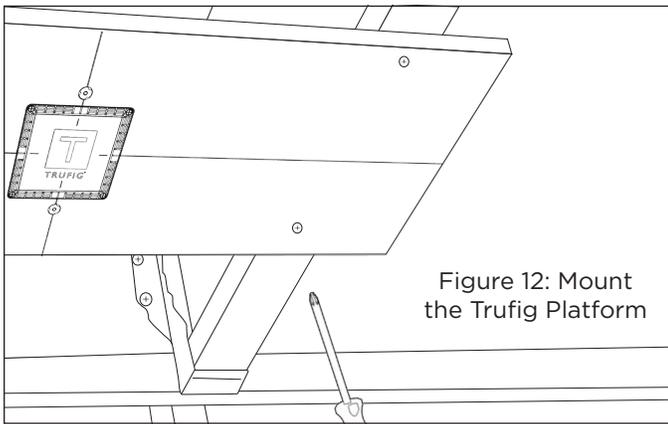

Figure 12: Mount the Trufig Platform
1. Once the PPX subwoofer cabinet is in position, place the mounting platform in the desired location for the grille in the ceiling (see Figure 12).